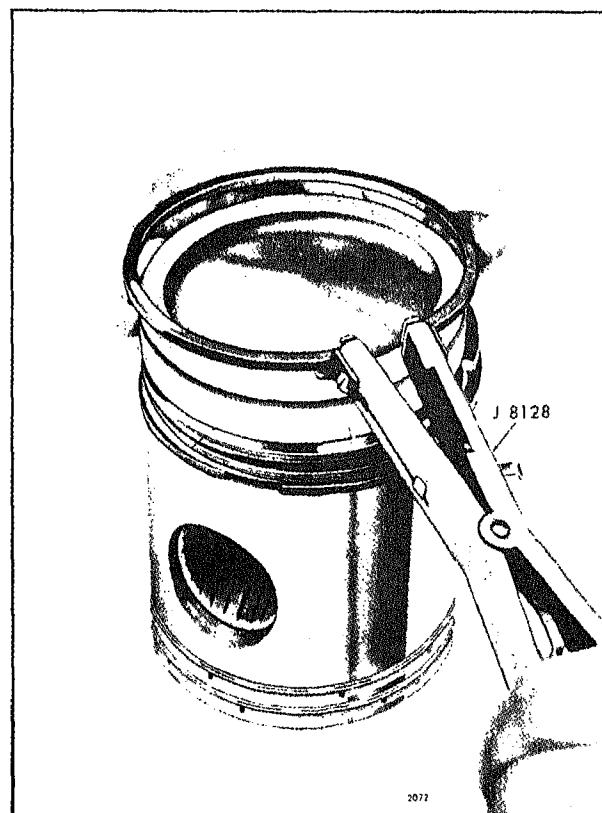

Fig. 2 - Removing or Installing Piston Ring
1. Secure the connecting rod in a vise equipped with soft jaws and remove the piston rings with tool J 8128 as shown in Fig. 2.